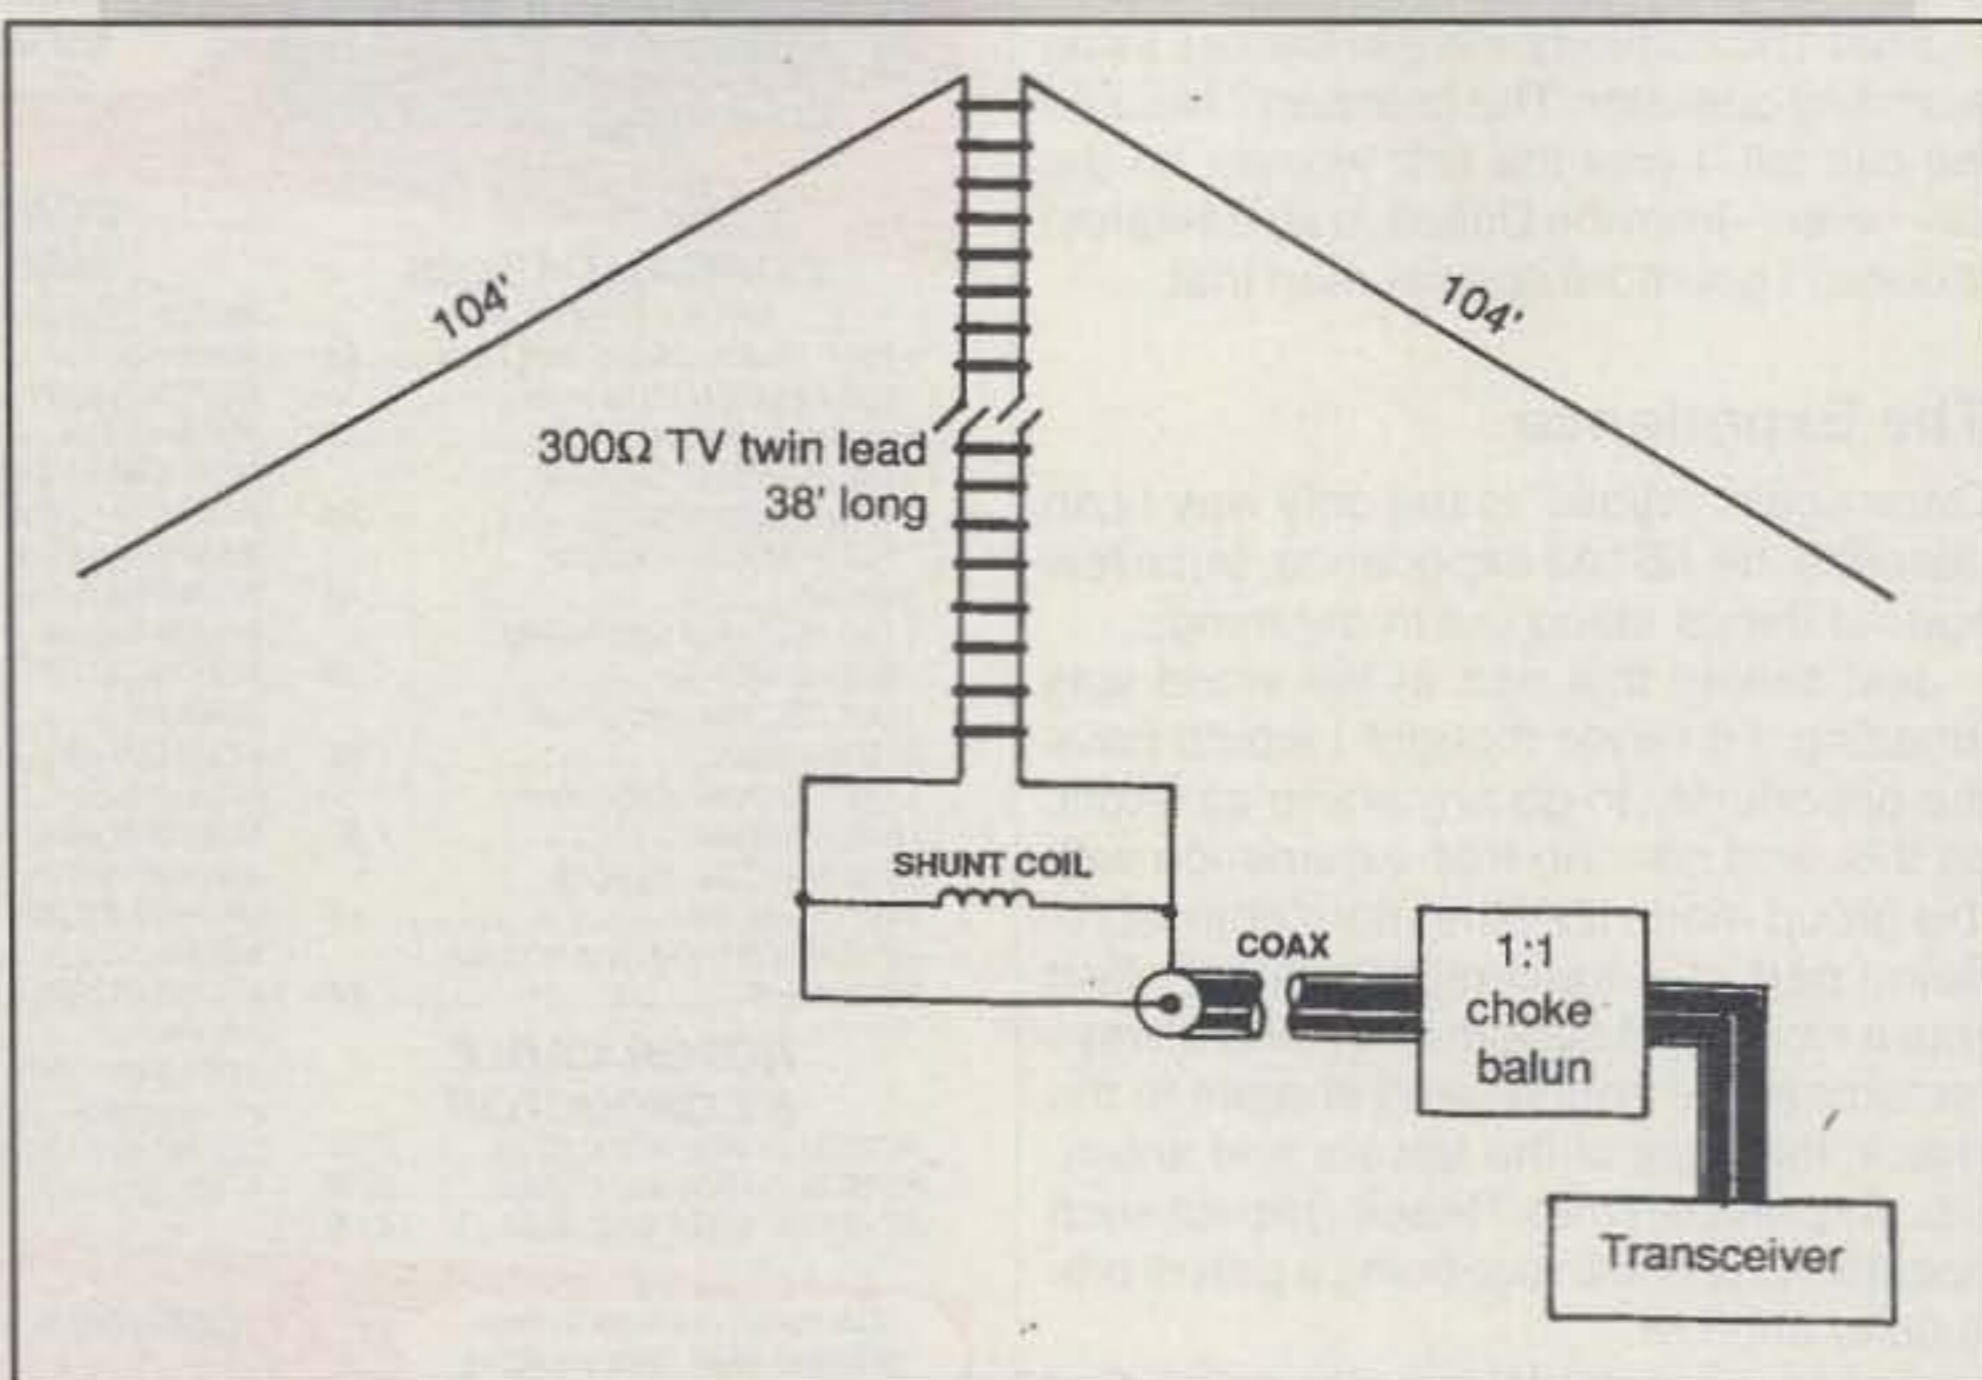

Fig. 1—The 160 meter inverted-V antenna.
major objective, I used two 120 foot wires as radiating elements. With the elements supported at the apex and slanting down in straight lines toward the ground, the end points of the V were about 120 feet each side of center and 8 to 10 feet above ground (see fig. 1).
4. Attach the center insulator to the apex support point and elevate it to 35 feet. Extend the radiating elements out in straight lines (see fig. 1) and wind about 6 turns (12 feet) of each end onto the "bobbins." Secure the wound wire with the black nylon ties. Support these bobbins about 6 to 10 feet above the ground, but keep the wires extended in straight lines. I have used trees, vertical poles, and fence posts for such supports. The length of wire from each bobbin to the apex should now be 104 feet.
5. Connect the twin line, shunt coil, balun, and transceiver coax as shown in fig. 1.